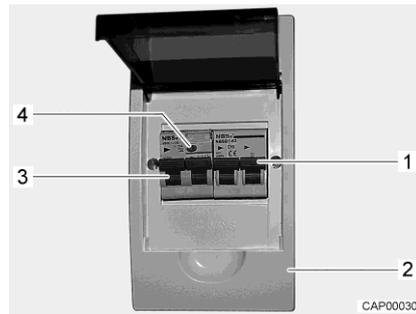

Fig. 71 Safety cut-out and FI-switch (230 V fuse box)
- Switch off the safety cut-out (Fig. 71,1) in the fuse box (Fig. 71,2).
- When the vehicle is connected to the 230 V supply, press the test button (Fig. 71,4) of the fault current protection switch (FI-switch) (Fig. 71,3) in the fuse box (Fig. 71,2). The fault current protection switch must trip.
- Switch the fault current protection switch (Fig. 71,3) back on again.